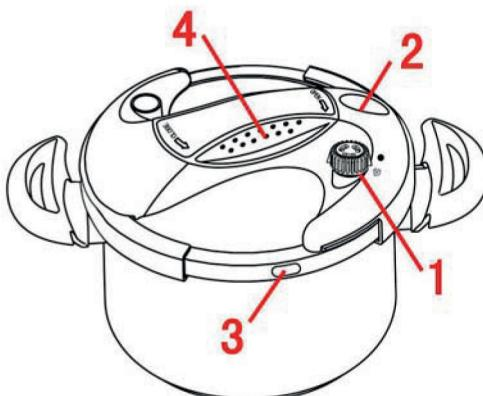

Fig.6
Using our products to feel at ease, we designed and equipped multi-device for safety.(Fig.6)
2. Setting multi-device ensures pressure cooker working normally. (Fig.6)